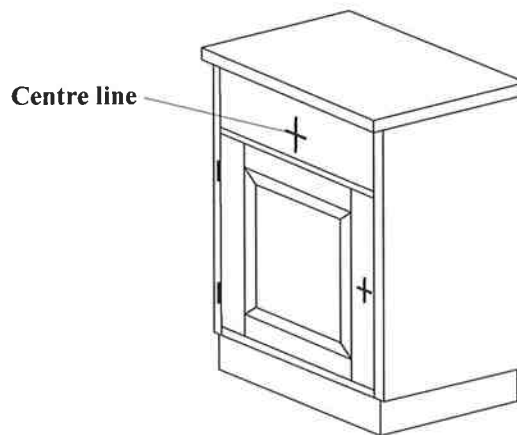

Figure 5. Bedside cabinet
- (e) Figure 5 shows the pictorial view of a bedside cabinet with one drawer and a door.
- (i) Explain, with the aid of neat sketches, TWO layout processes that should be used to locate the hole indicated by the centre line shown on the drawer in Figure 5. **(4 marks)**
- (ii) Explain, in sequential order, THREE steps to be taken to correctly install a pair of hinges to the bedside cabinet door shown in Figure 5. **(6 marks)**